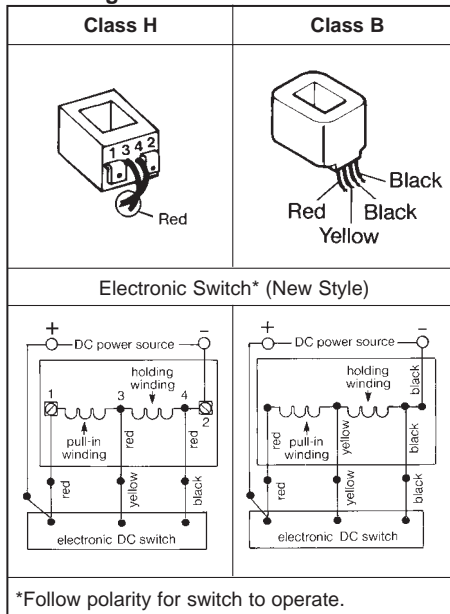

Figure 5
- All Stearns DC coils are single voltage and have dual windings. A high current pull-in winding, and a low current holding winding. See Figure 5. An electronic switch with internal timing circuit is used to switch the coil from high current to low current. Due to the high initial current demand of a DC solenoid, a separate DC power source of adequate current capacity is usually required.
- Connect proper power to the two terminals or two outside wires of the coil as shown in Figure 5. (Polarity must be maintained.)